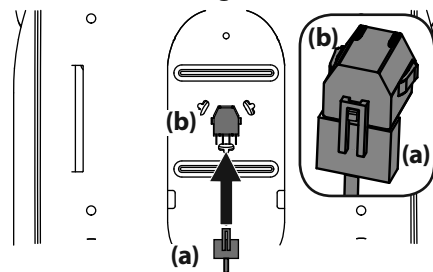

Figure 6
3. If necessary, securely connect the seat switch wiring harness (a) to the seat switch (b). See Figure 6. Secure excess wire away from pinch points before continuing.